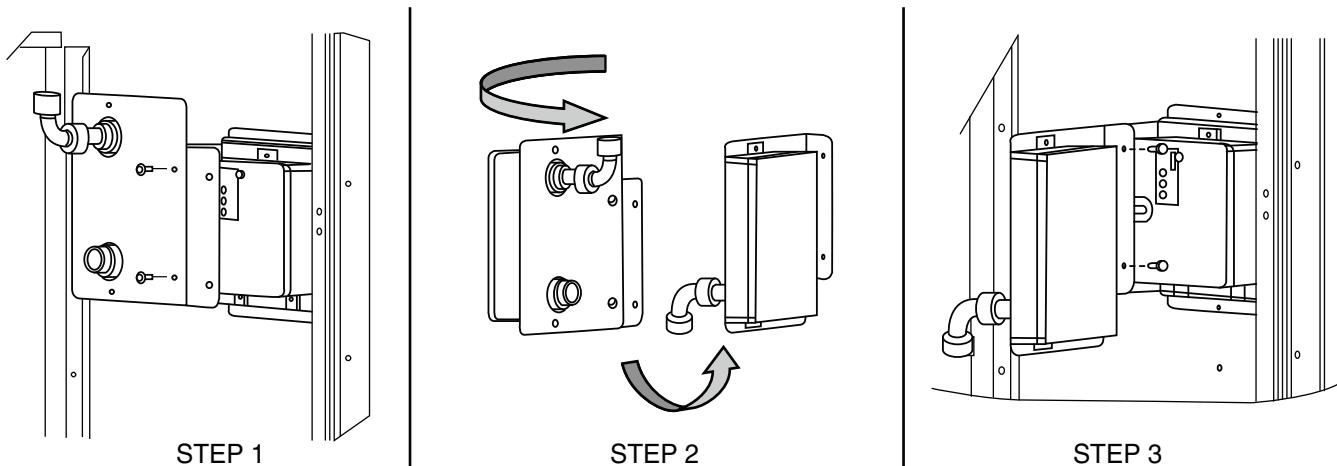

Fig. 64 — Completing Installation of Return Air Smoke Sensor
1. Unscrew the two screws holding the return air smoke detector assembly. See Fig. 64, Step 1. Save the screws.
2. Turn the assembly 90 degrees and then rotate end to end. Make sure that the elbow fitting is pointing down. See Fig. 64, Step 2.
3. Screw the sensor and detector plate into its operating position using screws from Step 1. See Fig. 64, Step 3.